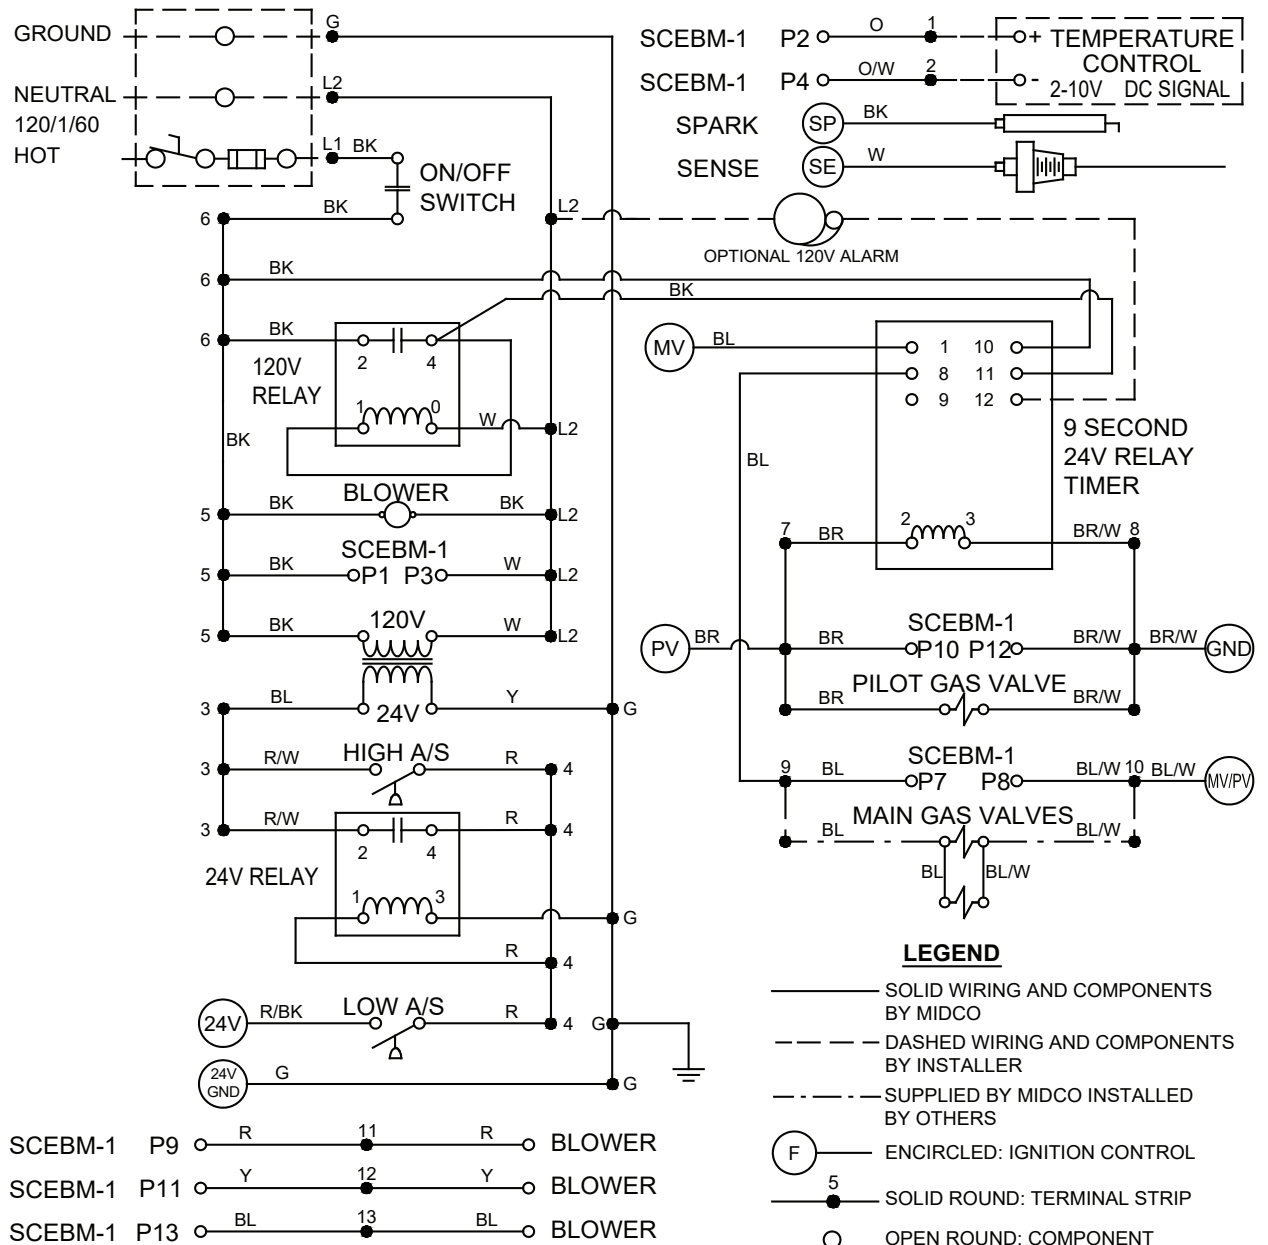

Figure 4E:
- L1 (Black), L2 (White), and G (Green). (refer to Figures 4E)
- positive (+) and negative (-) (refer to Figures 4E)
L (Blue) N (Blue/White) and G (Green). (refer to Figures 4E)